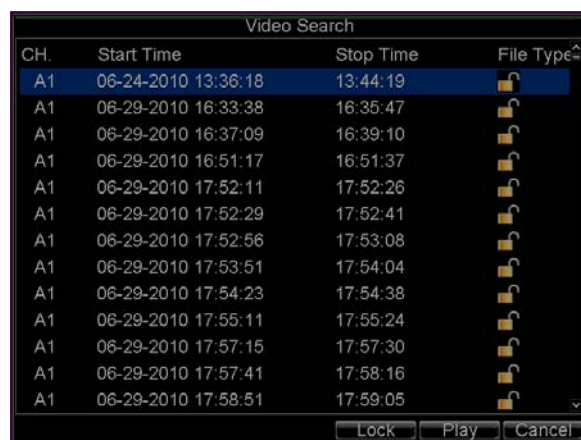

Figure 7. Video Search Result List
3. Click the *Search* button. A list of record files (see Figure 7) matching the search parameters will be displayed.